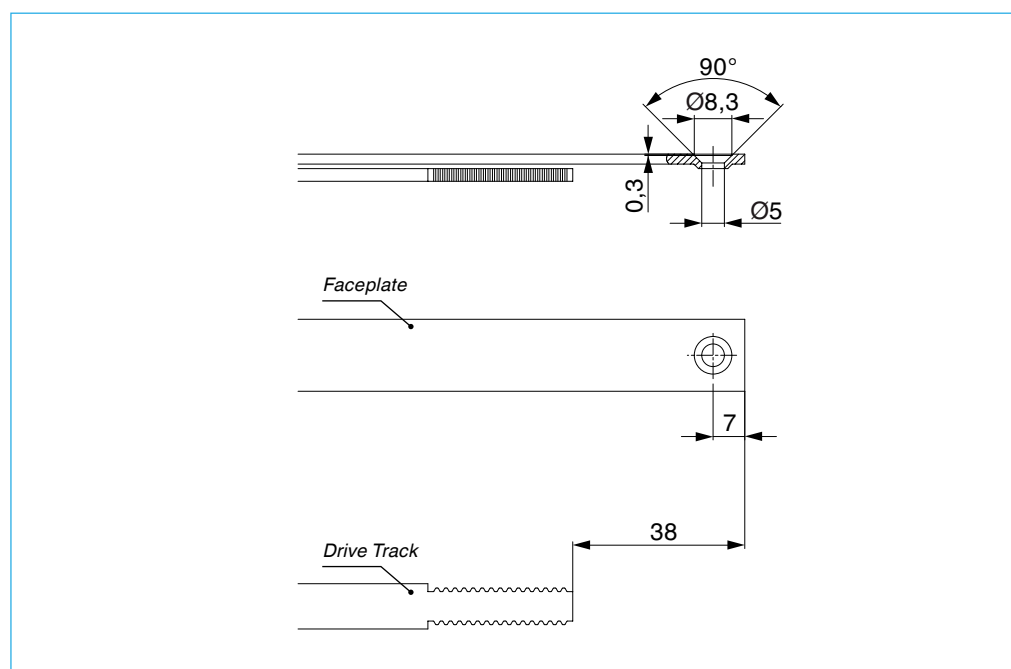

Fig. 1
- Install the **one-piece centre locks** (1) (from a SRW over 800 mm)*.
- Install the **end pieces** (2) (couple with the centre locks if applicable).
- Crop the **TU.-ON./TI.-ON. espagnolette with Tilt-Only stay-arm** (3) and screw-fix together with the end pieces (use two Tilt-Only stay-arms from SRW 1200 mm).
- Install the **Tilt-Only hinges** (4) (use a third Tilt-Only hinge from a SRW over 1000 mm or 60 kg sash weight). PLEASE NOTE: Use glazing spacer-blocks on the window pane in the vicinity of the Tilt-Only hinges.
- Install the **Tilt-Only stayarm housing** (5) montieren. Mark the Tilt-Only stay-arm's notch (Fig. 1, (1)) on the frame with a pencil, line up the Tilt-Only stay-arm housing's mark with the notch and mount (Fig. 1, (2)).
2. Open the safety device on the Tilt-Only stay-arm housing and hinge the scissor-stay arm (Fig. 1).
3. Bring the window handle into the tilt-mode (Fig. 2) and close the safety device again (Fig. 1).
1. When unhinging in the tilted position, open the safety device (Fig. 1).